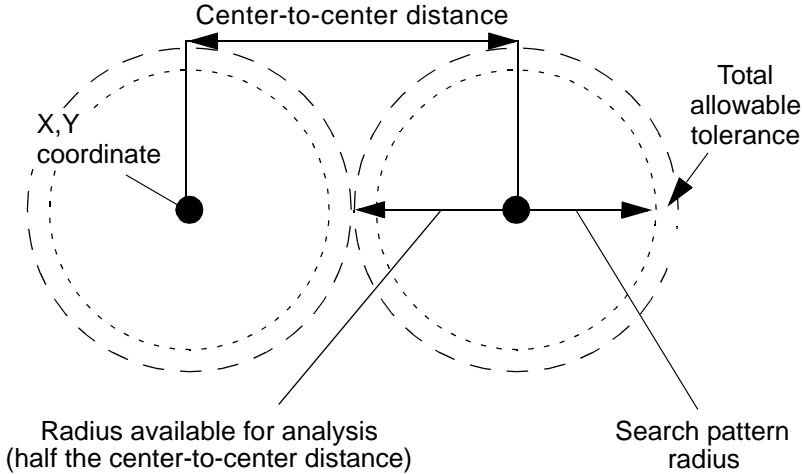

Figure 3-12 Area Available for Analysis
- If you are using plates with polished blank surfaces, the area available for analysis is determined by the proximity of other positions specified. Approximately half the distance between the X,Y coordinates of two adjacent positions is available for analysis of each position. For example, if the center X,Y coordinates of the two positions are 5,080 μm apart (plus positional tolerance, see below), approximately 2,540 μm around the X,Y coordinates is available for analysis of each position (Figure 3-12 on page 3-75).
- To prevent analysis of the wrong sample, the radius of the search pattern used must not exceed half of the center-to-center spacing minus the total allowable tolerance (Figure 3-12).